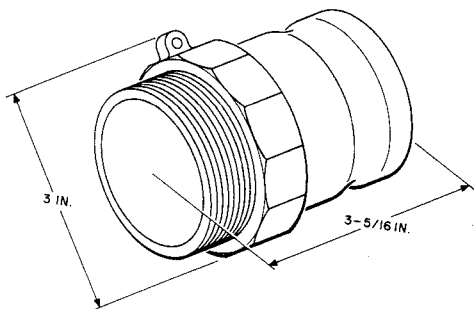

Fig. 3—D Adapter
4.09 The discharge port is equipped with a 2-inch D adapter (Fig. 3). Attach a 2-inch discharge hose, of appropriate length and lower the pump into the water with a handline attached to the handle, making sure the hose is not kinked. The power cord is not to be used to raise or lower the pump.